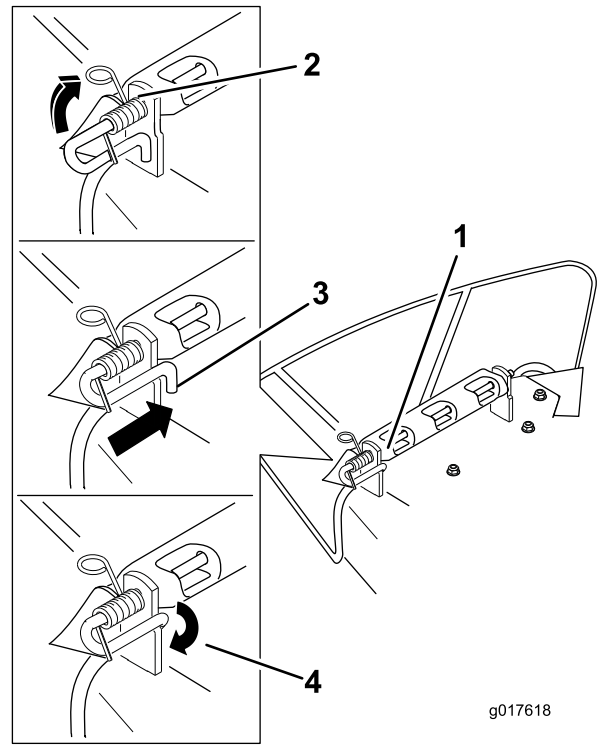

Figure 58
5. Secure the rod and spring assembly by twisting it so the short end of the rod can be placed behind the front bracket welded to the deck (Figure 58).
4. Lift the loop end of the spring and place it into the notch on the deflector bracket (Figure 58).